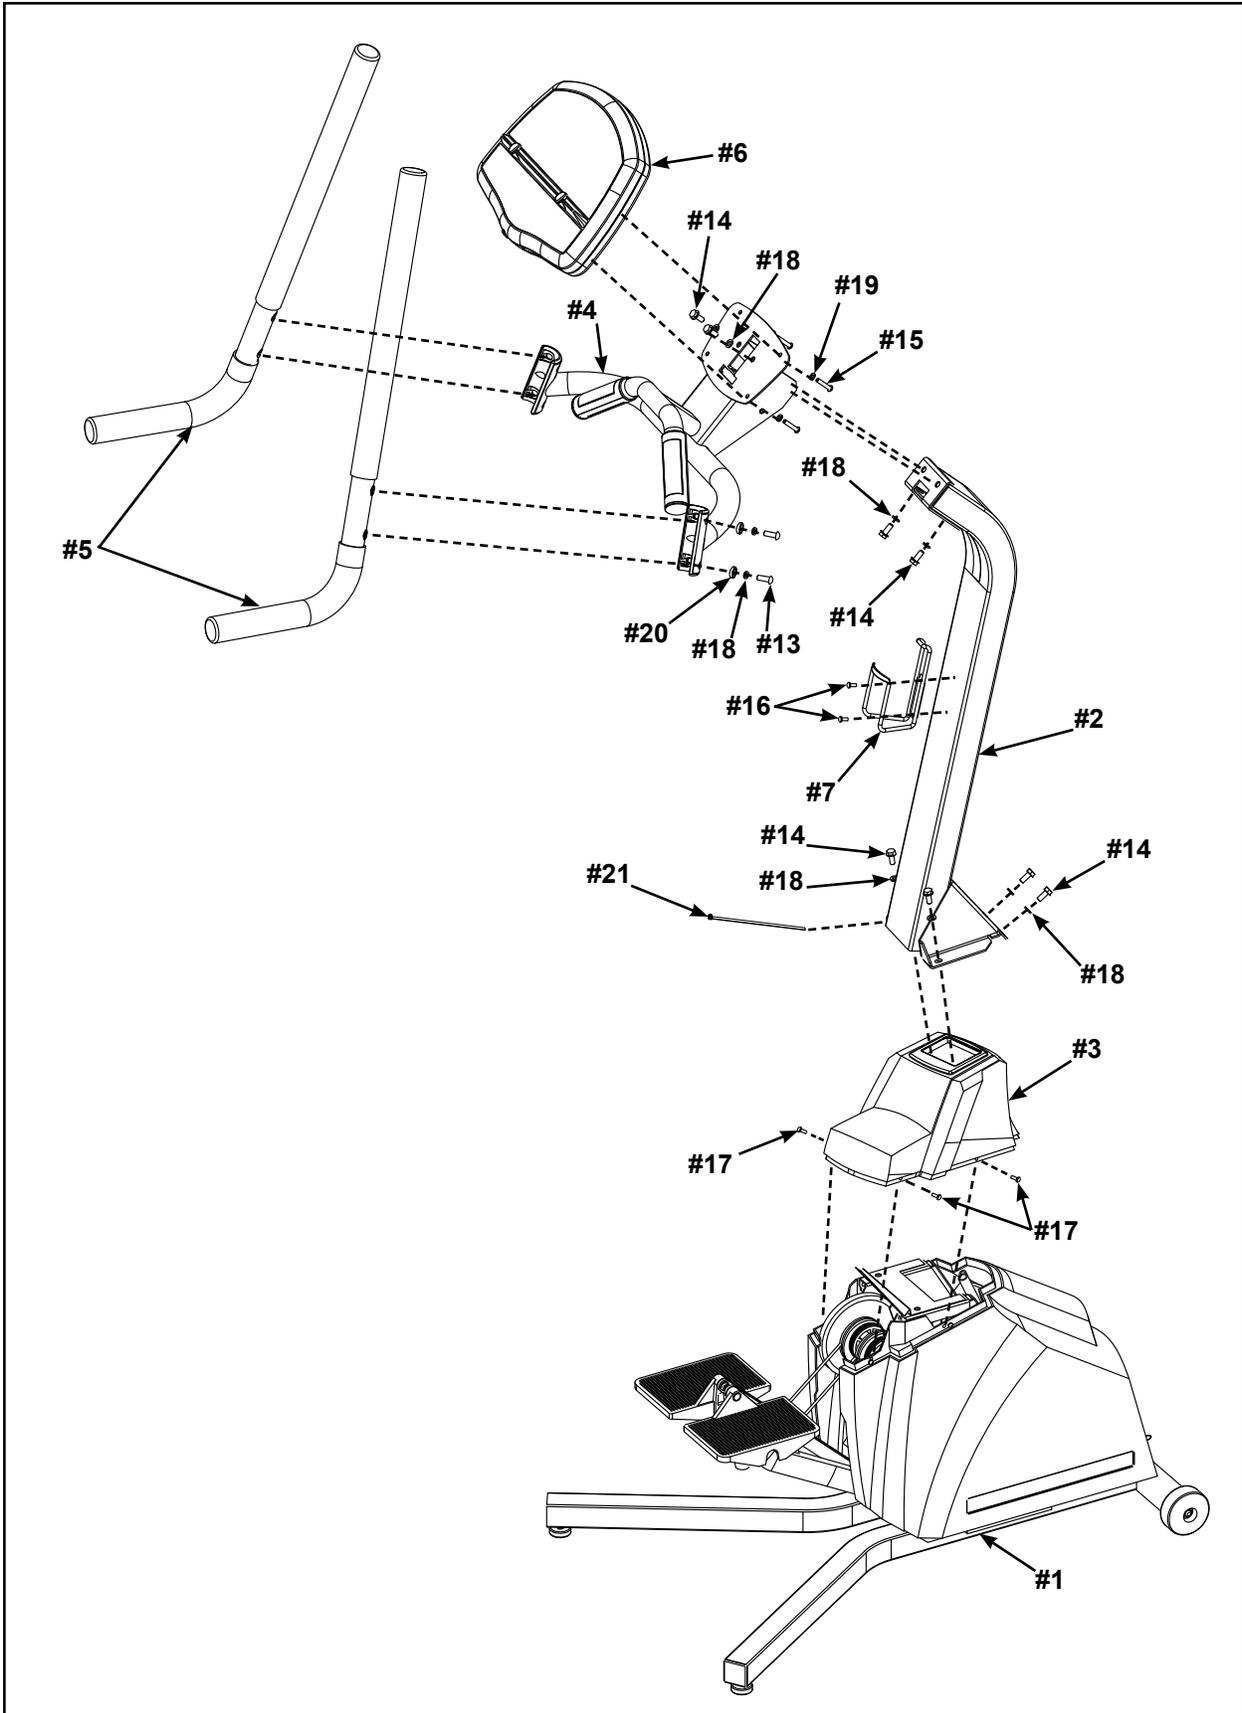

Figure 2
D. Check off (  ) each item in the hardware pack as you find it. See Figure 2.